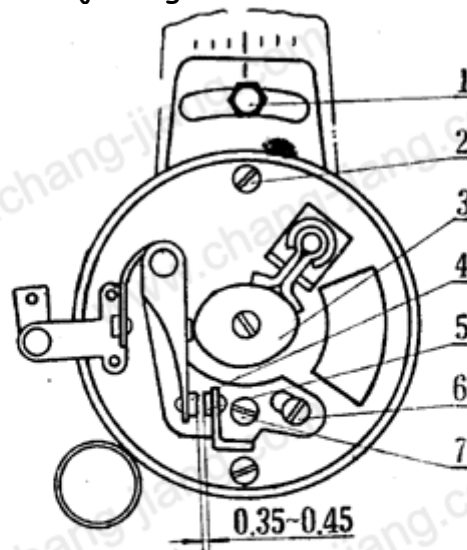

Fig.9 Schematic Diagram of Distributor FDQ—5
4.3.2 The distributor of engine CJ-750D is of FDQ-5 type, which is an automatic and centrifugal ignition advance distributor. It can automatically change ignition angle with the change of engine RPM to get optimum ignition time for the engine. It is installed on top left of front crankcase. Its adjusting methods are as follows (see Fig.9).